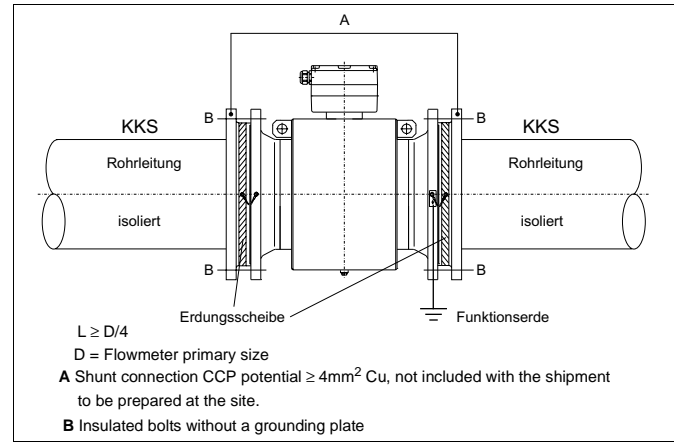
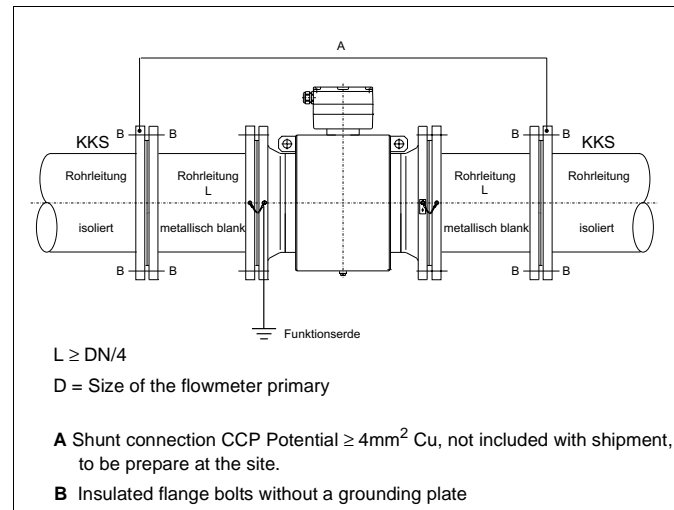

Fig. 32 Flowmeter Primary with Grounding Plates and Ground
Fig. 33 Flowmeter Primary with Ground
- For pipelines with interior insulating liners and without stray currents, the EMF should be installed with grounding plates up- and downstream of the flowmeter which are insulated from the pipeline in order to provide a shunt path for the CCP potential. The grounding plates up- and downstream of the EMF are at the ground potential (Fig. 32/Fig. 33).
- For pipelines with interior insulating liners in which stray currents are expected (e.g. long pipeline runs in close proximity to supply power equipment) a section of uninsulated pipe 1/4D long should be installed up- and downstream of the flowmeter primary in order to shunt the stray currents (Fig. 33).
Fig. 33 shows the preferred installation for systems with cathodic corrosion protection.